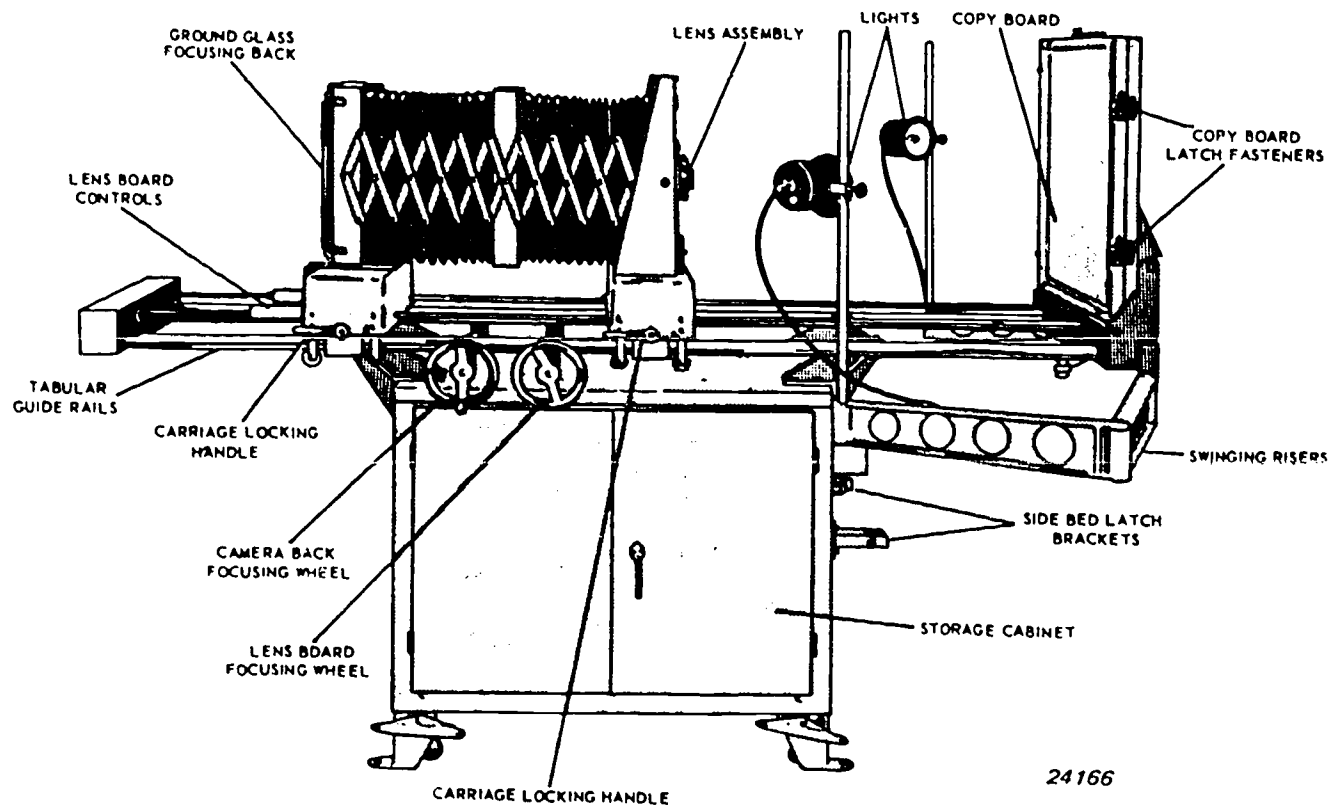
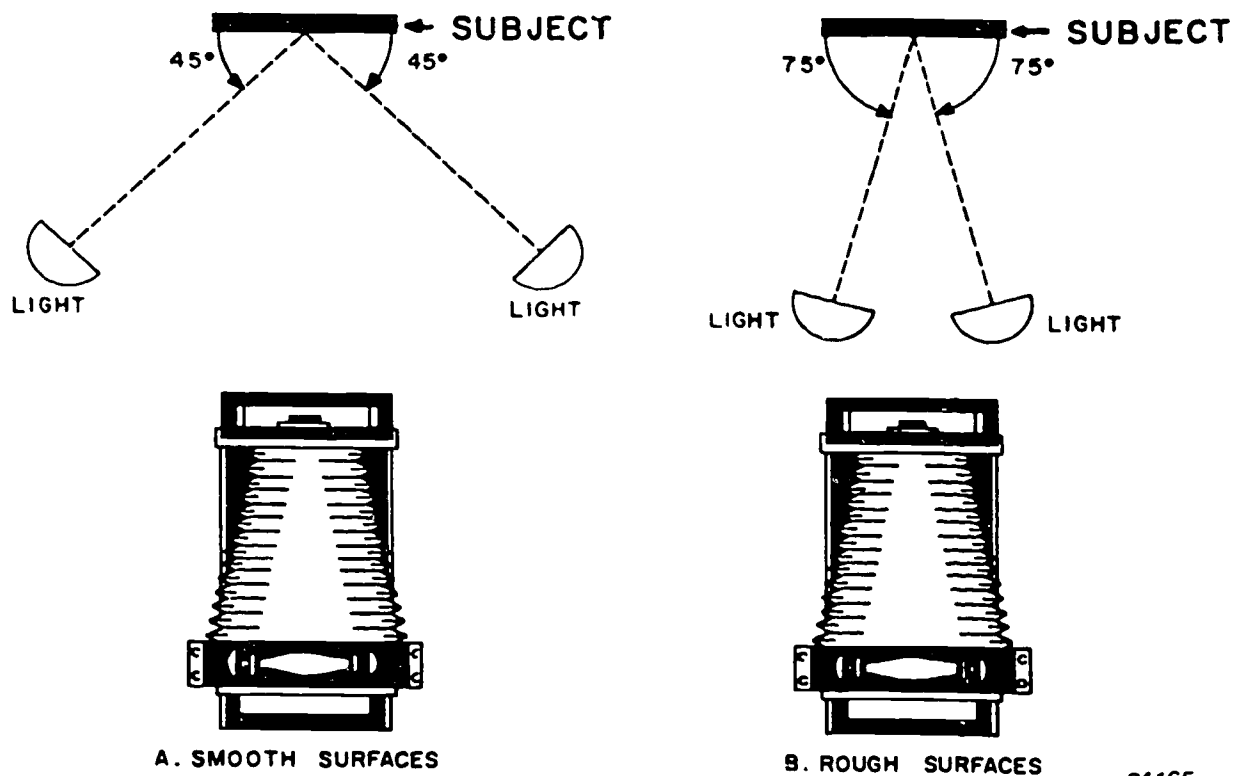

Figure 3-1. Princeton Model 17 copy camera.
Figure 3-2. Copy camera NuArc Model SST 1418.
Copy Camera Systems. A copy camera is one that is designed exclusively for copy work and serves no other function. A big advantage of a copy camera is that it eliminates many of the setup procedures that align a conventional camera to the copy subject. This is because a copy camera is a system. A typical copy camera system consists of a rigid rail or track, with a specially designed view camera mounted on one end of the track and a vertical copy easel on the other end. The camera is movable on the track, while the copy easel usually is not. All the problems of parallelism are eliminated, because the camera is permanently maintained in parallel with the copy easel on both the vertical and horizontal planes. To enlarge or reduce the subject image, you simply move the camera forward or backward on its track. Compare figures 3-1 and 3-2 and notice the similarities between these two copy camera systems. Both cameras are similar in design and almost interchangeable in application. Each has movable front and rear camera standards; ground glass focusing; attached, swinging lights; long bellows; aligned copy easel; and a fully corrected lens. The differences between the two models are format and easel size, light sources, and positioning of controls. A big difference is the type of film stage used. The camera shown in figure 3-1 uses film holders and can be used in normal room lighting, whereas the camera shown in figure 3-2 has a vacuum back to hold the film on the film stage during exposure. Vacuum-back copy cameras are "split-room" or through-the-wall cameras. The ground glass/film stage is in a darkroom, and no lights or safelights must be used during the exposure step. Also, the camera's rear standard is not movable, so the easel on this type of camera travels backward or forward on the track to adjust image size. Let's first discuss the common procedures for the two models, then "focus" on
the operation of the one shown in figure 3-1. General procedures for setting up a copy camera are:
Now let's zero in on the "Princeton" Model 17 (fig. 3-1), which is used in the horizontal position for copying continuous tone or line originals or transparencies, in black-and-white or color work.
10. What is the difference between the film stages of the copy cameras shown in figures 3-1 and 3-2?